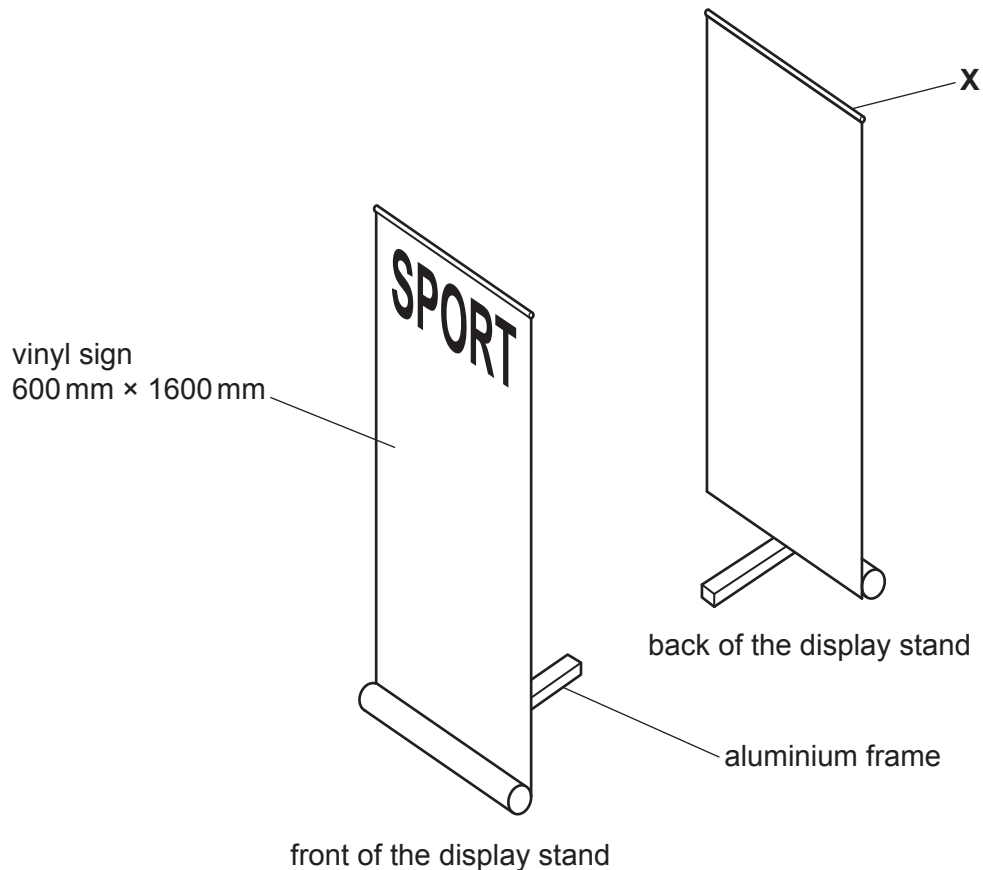

Fig. 5.1
- 5 Fig. 5.1 gives details of an incomplete portable display stand used by a sportswear company.